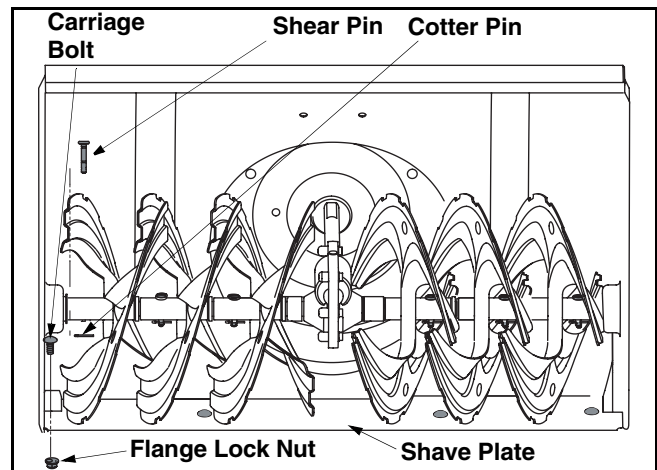

Figure 15
- The augers are secured to the spiral shaft with six shear pins and cotter pins. If you hit a hard foreign object or ice jam, the snow thrower is designed so that the pins may shear. Refer to Figure 15.
- To remove the shave plate, remove the carriage bolts and flange lock nuts which attach the shave plate to the snow thrower housing. See Figure 15.